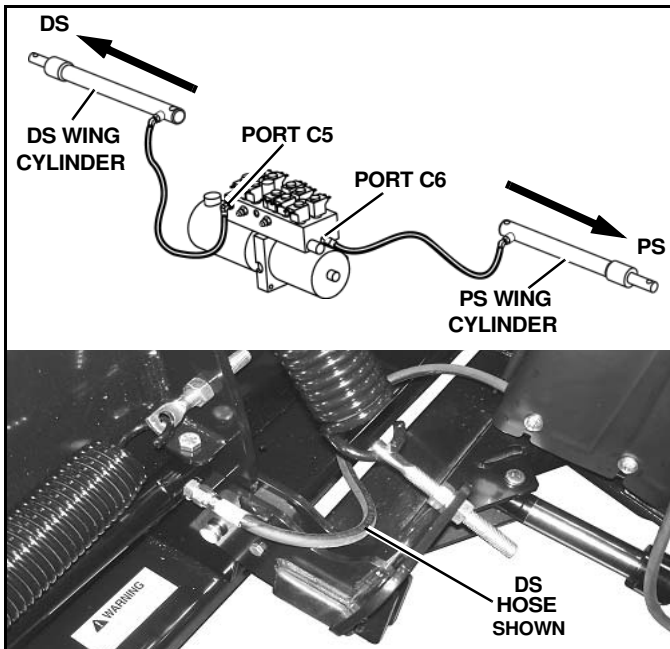

Figure 1-20
5. **MODEL 29R Only:** Connect the hydraulic hose from port C6 on the power unit to the right (PS) wing cylinder. Connect the hose from port C5 on the power unit to the left (DS) wing cylinder. (See Figure 1-20)